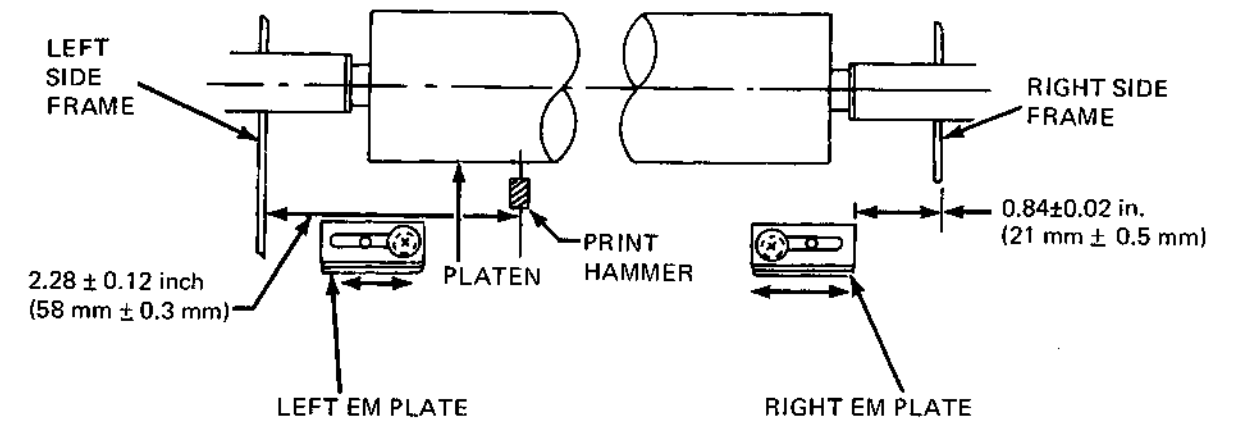

Figure 5-12 First Print Position and Right EM Plate Adjustment
- a. The first print position (the extreme left position) should be  $2.28 \pm 0.012$  inches ( $58 \pm 0.3$  mm) from the left side frame as shown in Figure 5-12. To adjust to this position, slide the left side EM plate on the base frame in the required direction (as indicated by the arrows).
- a. Position the right side EM plate  $0.84 \pm 0.02$  inch ( $21 \pm 0.5$  mm) from the inside of the right side frame as shown in Figure 5-12.